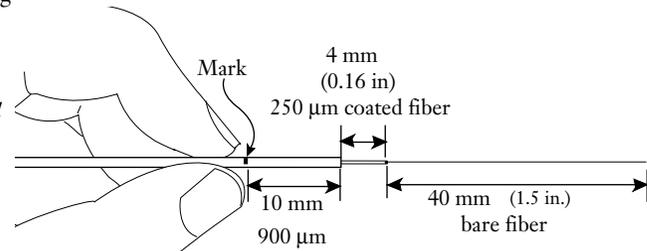

Figure 5-28
**5.6-5** Mark the fan-out tube 10 mm (0.39 in) back from the end of the 900  $\mu\text{m}$  tubing with a permanent marker (Figure 5-28). *This mark is a visual aid to indicate when the field fiber contacts the fiber stub.*